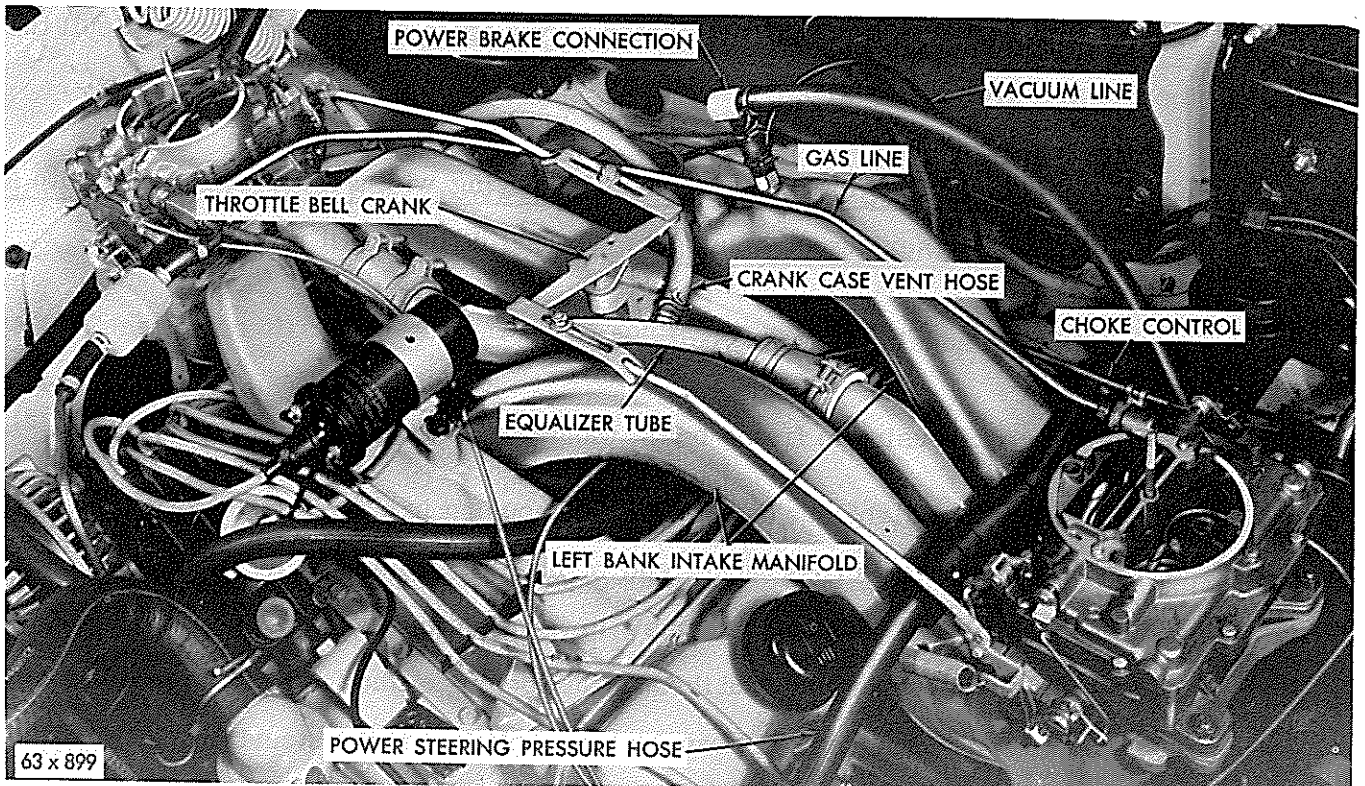

Fig. 16 - FirePower 390 Engine Intake Manifolds
- (16) Remove the left air cleaner.
- (17) Disconnect the crankcase vent hose at the equalizer tube (Fig. 16).
- (18) Disconnect the left throttle rod at the throttle bell crank and at the carburetor.